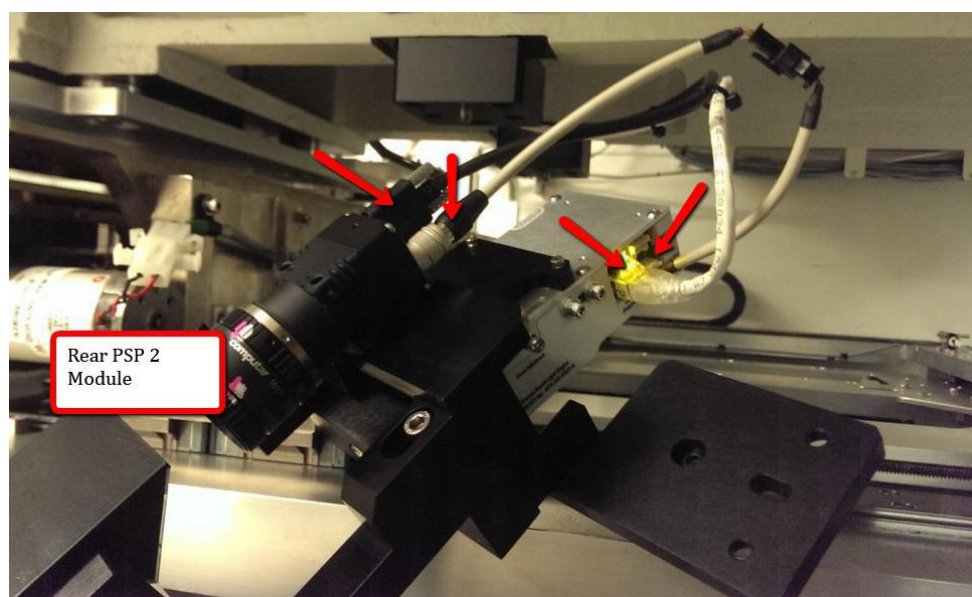

Figure 22 Cable Connection
- Connect all cable assembly at the rear projector module as below Figure 22.